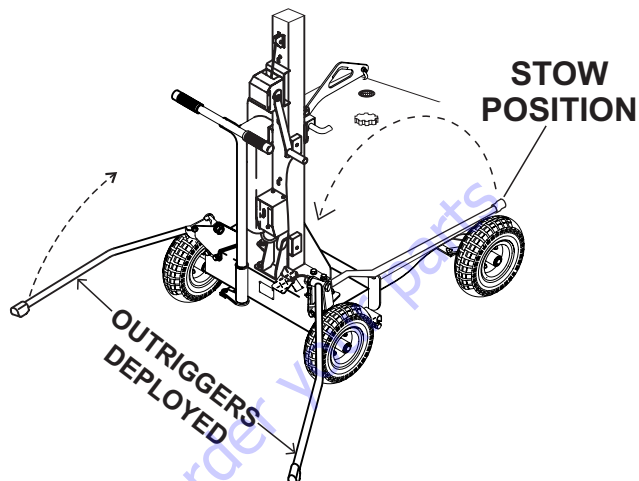

Figure 5. Outriggers (Deployed Position)
3. Lift up on each outrigger (2) from its stow position, rotate backwards and place it in the deployed position, as shown in Figure 5. The outriggers will automatically lock in place once they touch the ground.